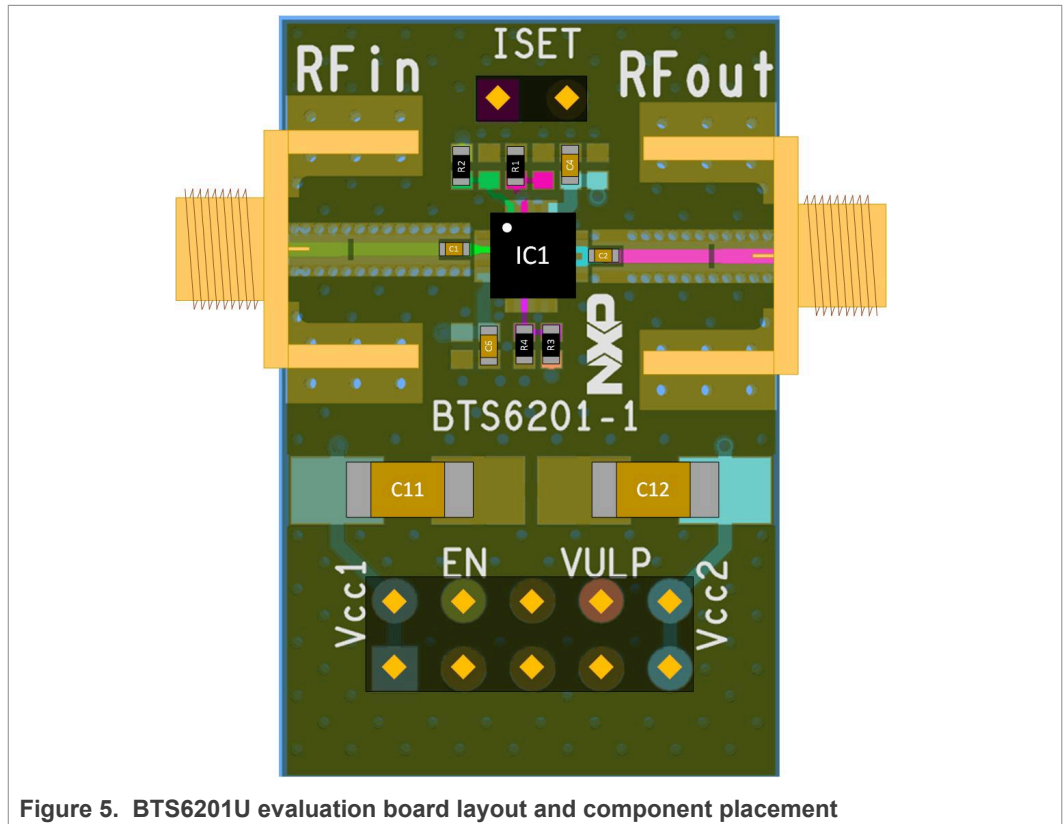

Figure 5. BTS6201U evaluation board layout and component placement
The application board circuit diagram that is implemented on the EVB is shown in Figure 5.
- Proper grounding of the GND pins is also essential for good RF performance. Either connect the GND pins directly to the ground plane or through vias, or do both, which is recommended. The layout and component placement of the BTS6201U evaluation board is given in Figure 5